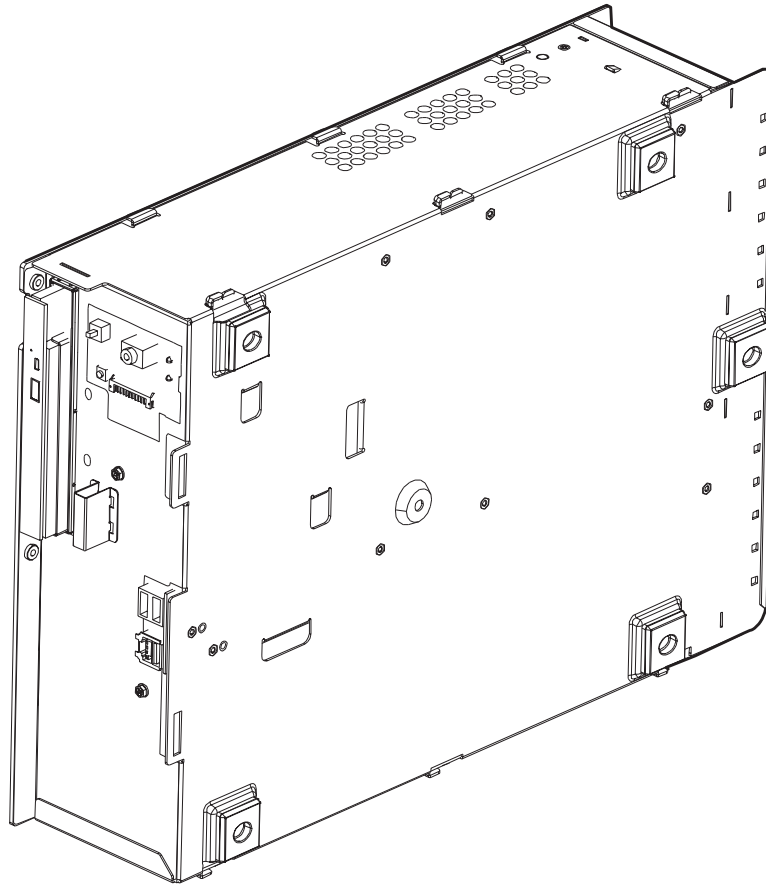

Figure 49. Position of system unit and expansion housing
3. Place the system unit and the expansion housing in the position shown in Figure 49. This position assists with the removal process as the rubber feet do not touch the counter.